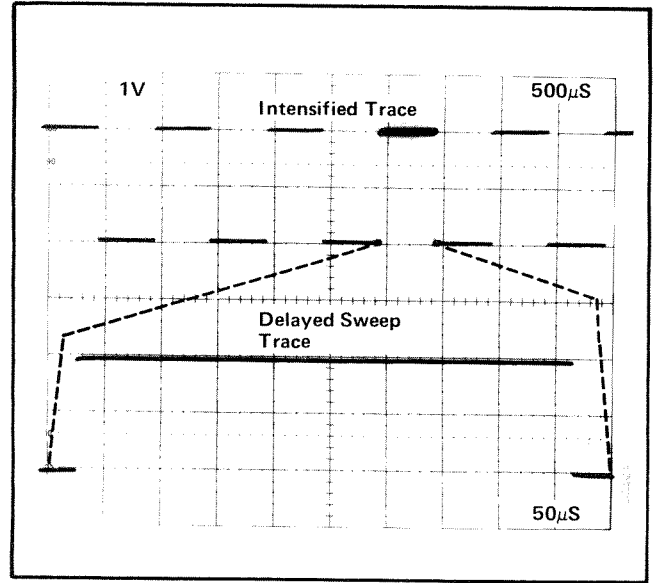

Fig. 2-9. Typical Alternate Sweep display.
**Alternate Sweep Display.** The ALT Display Mode is effective when the ALT switch is pressed and released to the OUT position and the DLY'D Time/Division switch is set to a sweep rate faster than the TIME/DIV OR DLY TIME switch setting. In this Display Mode, both an intensified sweep and a delayed sweep are displayed (see Fig. 2-9).